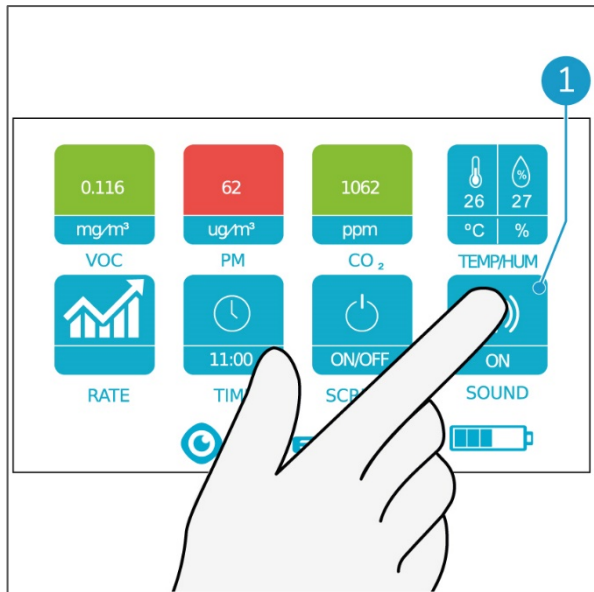

Figure 23
1. Touch the SOUND button (Figure 23, pos 1) with your finger to turn the sound on or off.